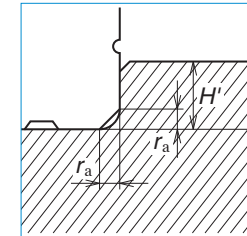

Fig. 10.10 Shoulder for the rail datum surface
(1) Shoulder height of the mounting surface of the machine base and corner radius r
- Figs. 10.10 and 10.11**, show shoulder height of the mounting surface of the machine base and the size of corner radius. These figures are relevant when the linear guide is pressed to the shoulder of the machine base or table (the raised section from where the mounting surface begins), and horizontally secured to it. Recommended sizes are shown in the clause of "Shoulder height and corner radius r" of each series introduction.